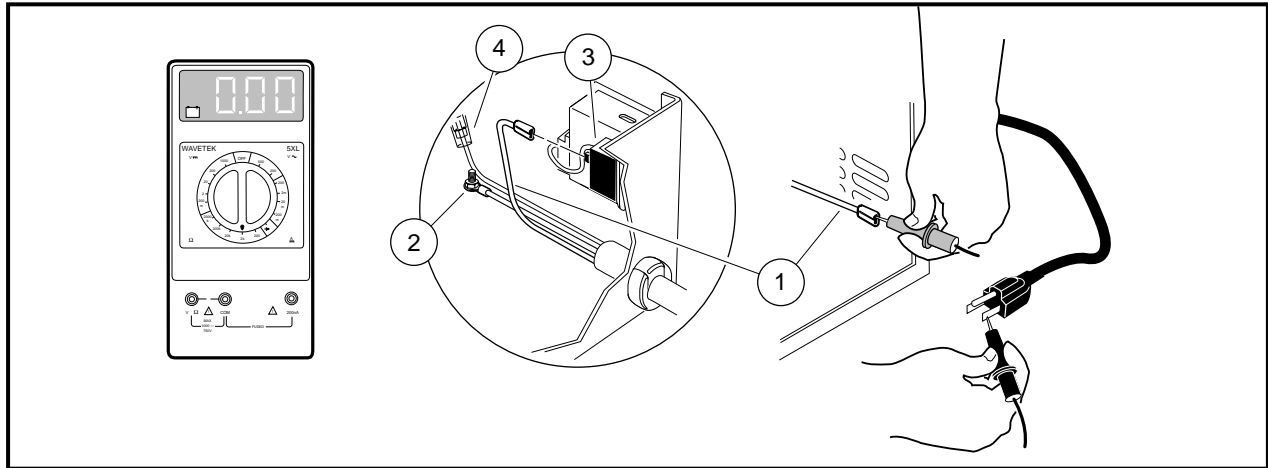

Figure 14-14 AC Plug
1. Disconnect black wire (1) of AC cord from the contact terminal of the relay (**Figure 14-14, Page 14-13**).
2. Disconnect the green wire (2) from the charger case (**Figure 14-14, Page 14-13**).
3. Connect the alligator clip of a continuity tester (Club Car Part No. 1011273) to the end of the black wire (1) and check for continuity on both flat blades and on the ground blade of the AC plug (**Figure 14-14, Page 14-13**). Continuity should be shown on only one flat blade. If continuity is indicated on more than one blade or on no blade, the AC cord and plug must be replaced.
4. Disconnect white wire terminal connector (4) at the transformer lead. Insert red probe into the white wire terminal end (4). Place black probe on each flat blade and then on the ground pin and check for continuity. Continuity should be shown on only one flat blade. If tester indicates continuity on more than one blade or on no blade, the AC cord and plug must be replaced (**Figure 14-14, Page 14-13**).
5. Attach alligator clip to end of green wire (2) and check for continuity on both flat blades and ground pin of AC plug (**Figure 14-14, Page 14-13**). Continuity should be shown on only ground pin. If continuity is indicated on flat blades or is not indicated on ground pin, AC cord and plug must be replaced.